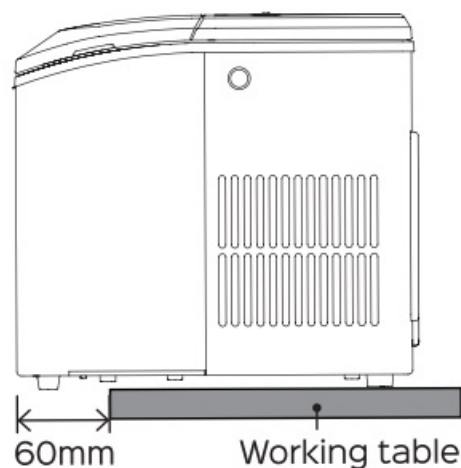
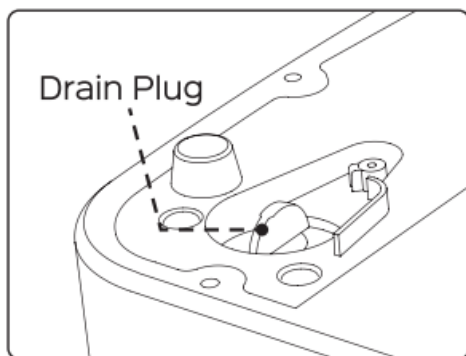
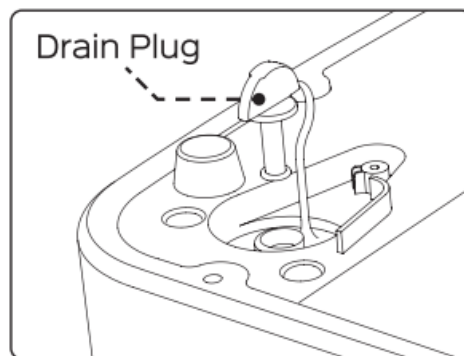

Fig.4
Fig.5
Fig.6
3. Move the appliance forward to a place 60mm away from the working table and open the drain plug to drain out excess water (see Fig.4, Fig.5 and Fig.6).